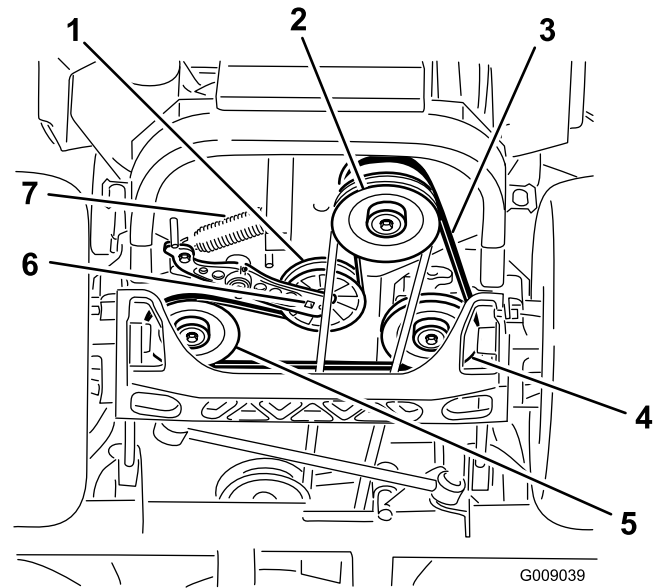

**Figure 77**
12. Install the belt covers (Figure 77).